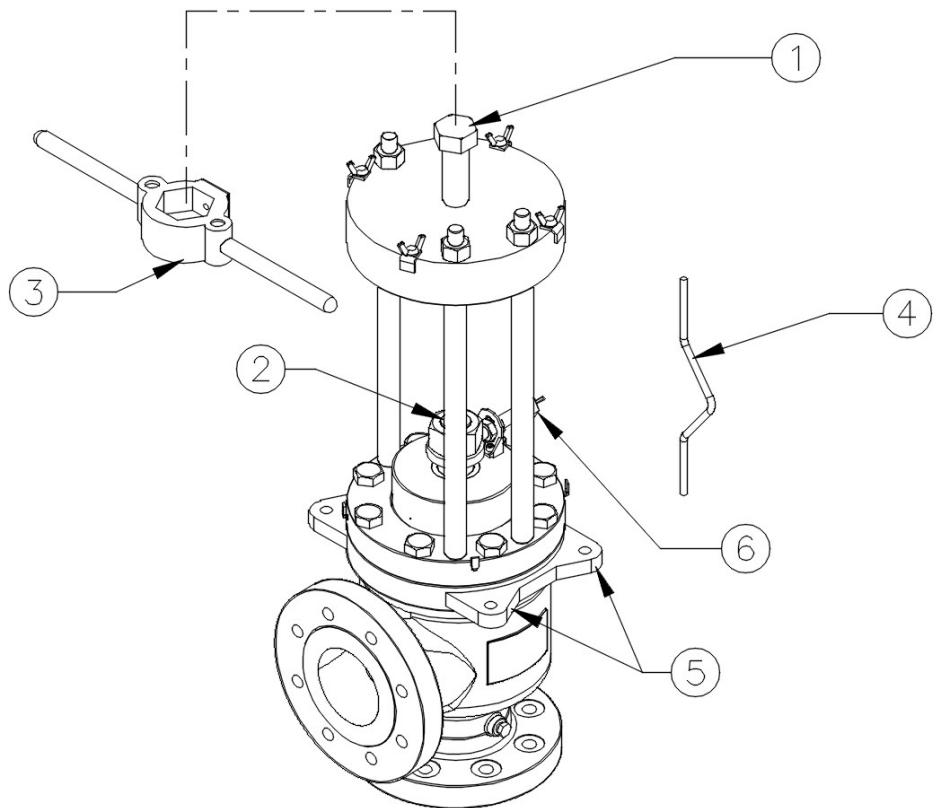

Figure 5: Removal of Used Buckling Pin
### Removal of Used Buckling Pin (Item 4 of Figure 5)
3. The valve is in open position with the used Buckling Pin as shown in Figure 6 below, remove the used Buckling Pin by unscrewing the Adjuster screw by placing Reset Tool (Item 3 of Figure 5) on the hexagonal head (Item 1 of Figure 5) until the used Buckling Pin can be removed.
4. To reseal the Plug (Item 2 of Figure 5) assemble the Shipping pin between the Adjuster Screw pin holder and Plug pin holders as shown in the Figure 6 with valve Plug in activated position. Lower the Adjuster Screw until the Shipping pin fixed firmly between the Adjuster Screw and the Plug.